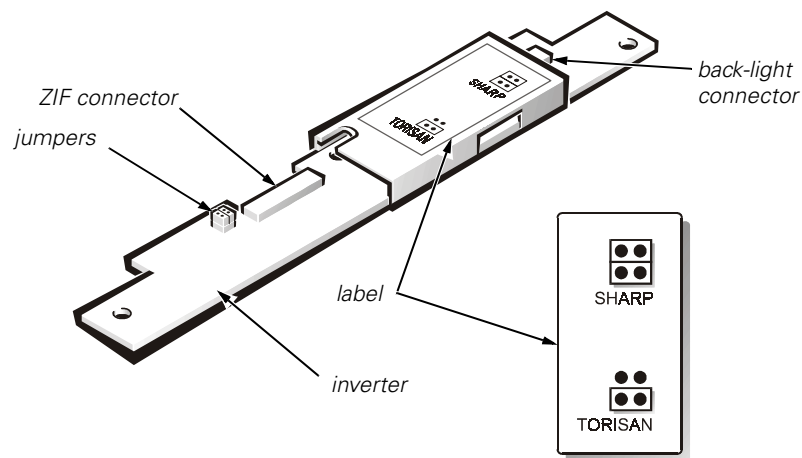

Figure 18. 12.1-Inch LCD Inverter
2. Ensure that the inverter's configuration jumpers are set correctly (see Figure 18).